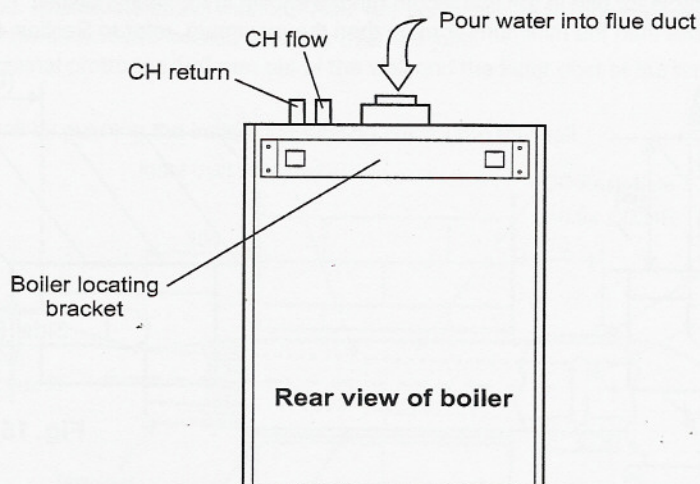

Fig. 12
Note: Ensure the flow and return pipes are correctly connected to the boiler. Refer to Fig. 12.
4. Connect the 22 mm condensate trap drain pipe to the condensate discharge pipe. Ensure that the condensate discharge pipe is as required in Section 3.11. Pour at least 0.5 litre of water into the flue duct, as shown in Fig. 12, and check the condensate discharge pipe for soundness.